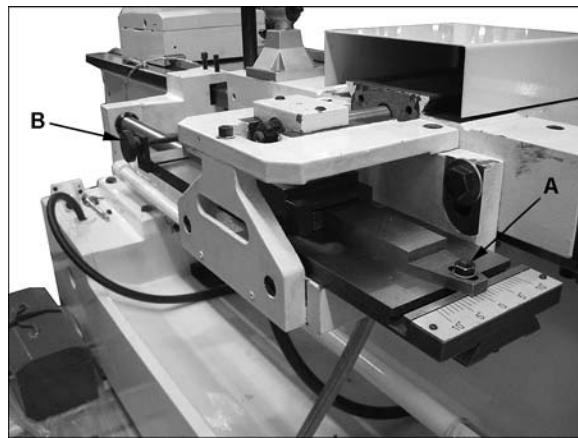

Figure 12
1. Loosen screws (A, Figure 12) at each end of slide.
2. Use fine adjustment knob (B, Figure 12) to set angle according to scale at end of slide.
3. Tighten the two screws (A) when desired angle is achieved.